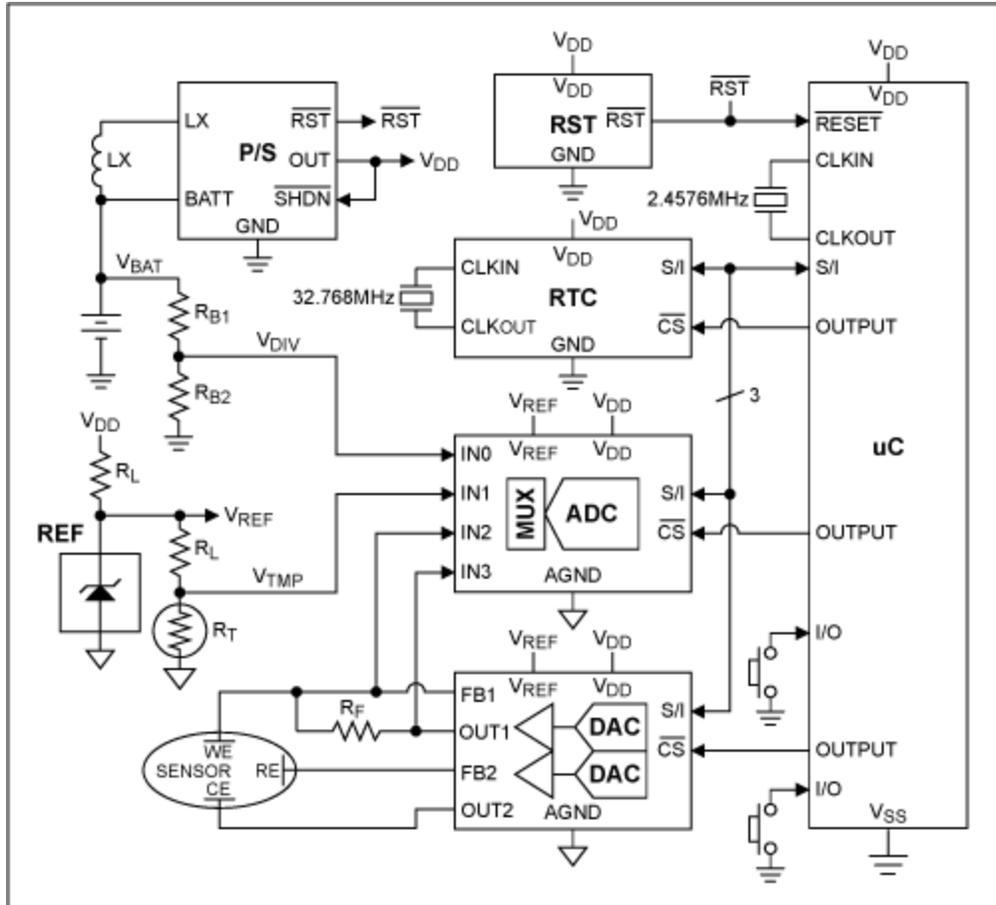

Figure 1. Portable system functional block diagram with discrete standard components.
Figure 1 shows the functional block diagram for a portable data acquisition system (DAS) using discrete components. The system includes power, analog, and digital circuitry. The power is derived from the batteries, with a power supply for a regulated output voltage. The battery voltage can be measured on demand with the A/D converter and there are reset circuits for the battery and the regulated output voltage. The analog includes the analog front end (AFE) circuitry (which may include D/A converters, opamps, and analog switches) to interface with an electrochemical sensor, a thermistor circuit to measure temperature, an A/D converter with an input multiplexer, and a voltage reference for use with the AFE, thermistor, and A/D converter. The digital circuitry includes a 32kHz oscillator, real-time clock (RTC), and a microcontroller (μ C) including a high-frequency crystal, external interrupts for the user interface, internal memory, and possibly other peripherals, such as a liquid crystal display (LCD) bias and driver circuit to interface to an LCD.
The sensor shown in Figure 1 is an electrochemical type sensor configured in a counter configuration where the working electrode (WE) is biased via the FB1 pin. The external resistor between FB1 and OUT1 configures the force/sense D/A converter as a transimpedance amplifier to measure the current through the sensor. The reference electrode (RE) is biased via the FB2 pin, and the feedback loop is closed through the sensor impedance to the OUT2 pin to regulate a constant potential between WE and RE over varying sensor currents.